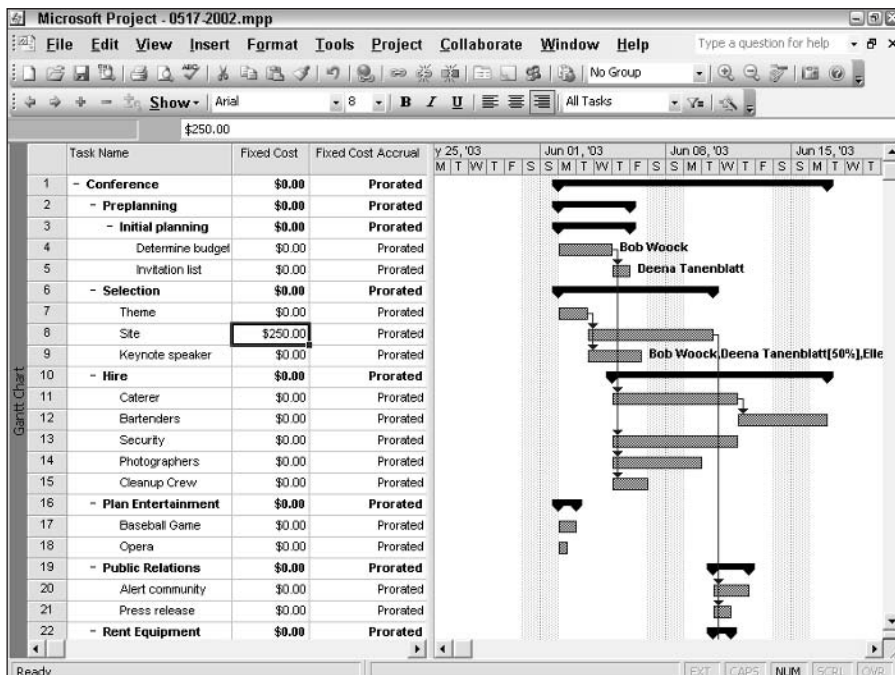

Figure 5-18: Use the Cost table view of the Gantt Chart to assign costs to tasks.
2. Choose View⇒Table:Entry⇒Cost to switch to the Cost table view of the Gantt Chart, as shown in Figure 5-18.